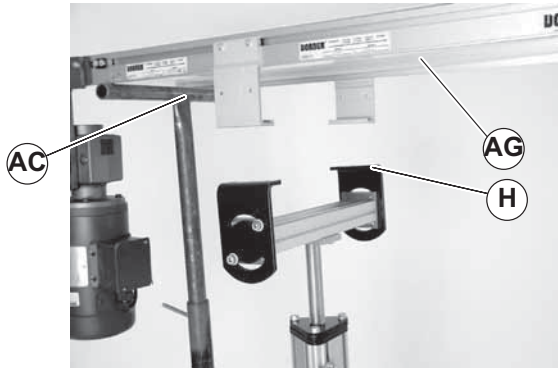

Figure 19
4. Raise the conveyor (Figure 19, item AG) from the conveyor mounting bracket (H) by adjusting the temporary stand (AC) upward.